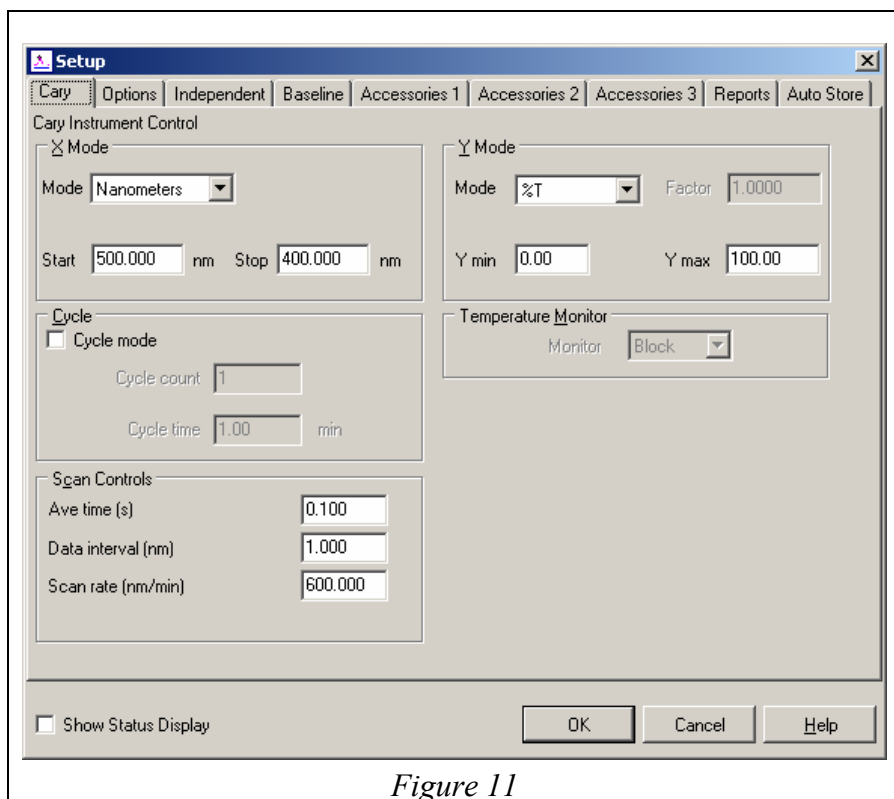

Figure 11
- 2) Choose the experimental parameters for your experiment. (Fig. 11)